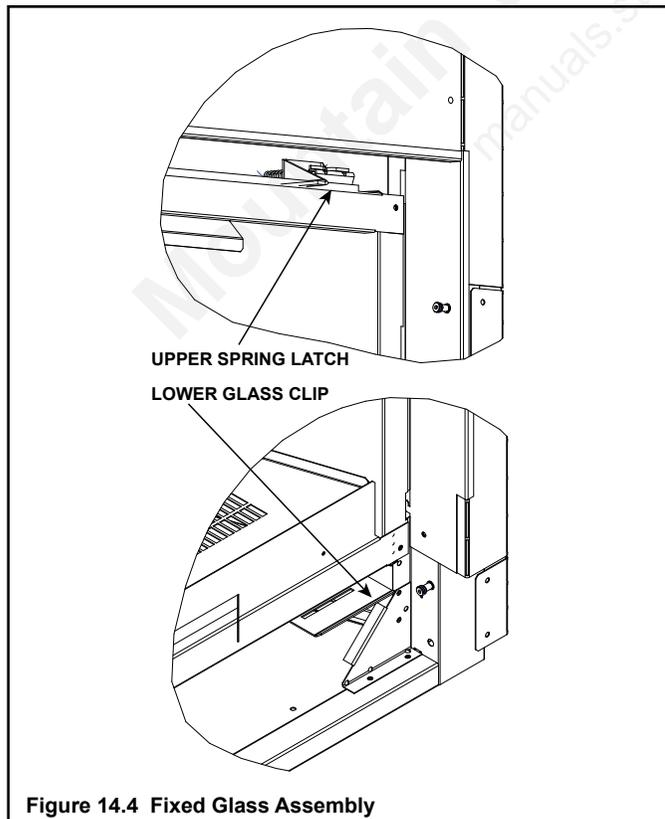

Figure 14.4 Fixed Glass Assembly
3. Use both index fingers to release spring latches. See Figure 14.4.
4. Put pressure on the glass as you allow the glass assembly to drop into the two lower glass clips. See Figure 14.4.